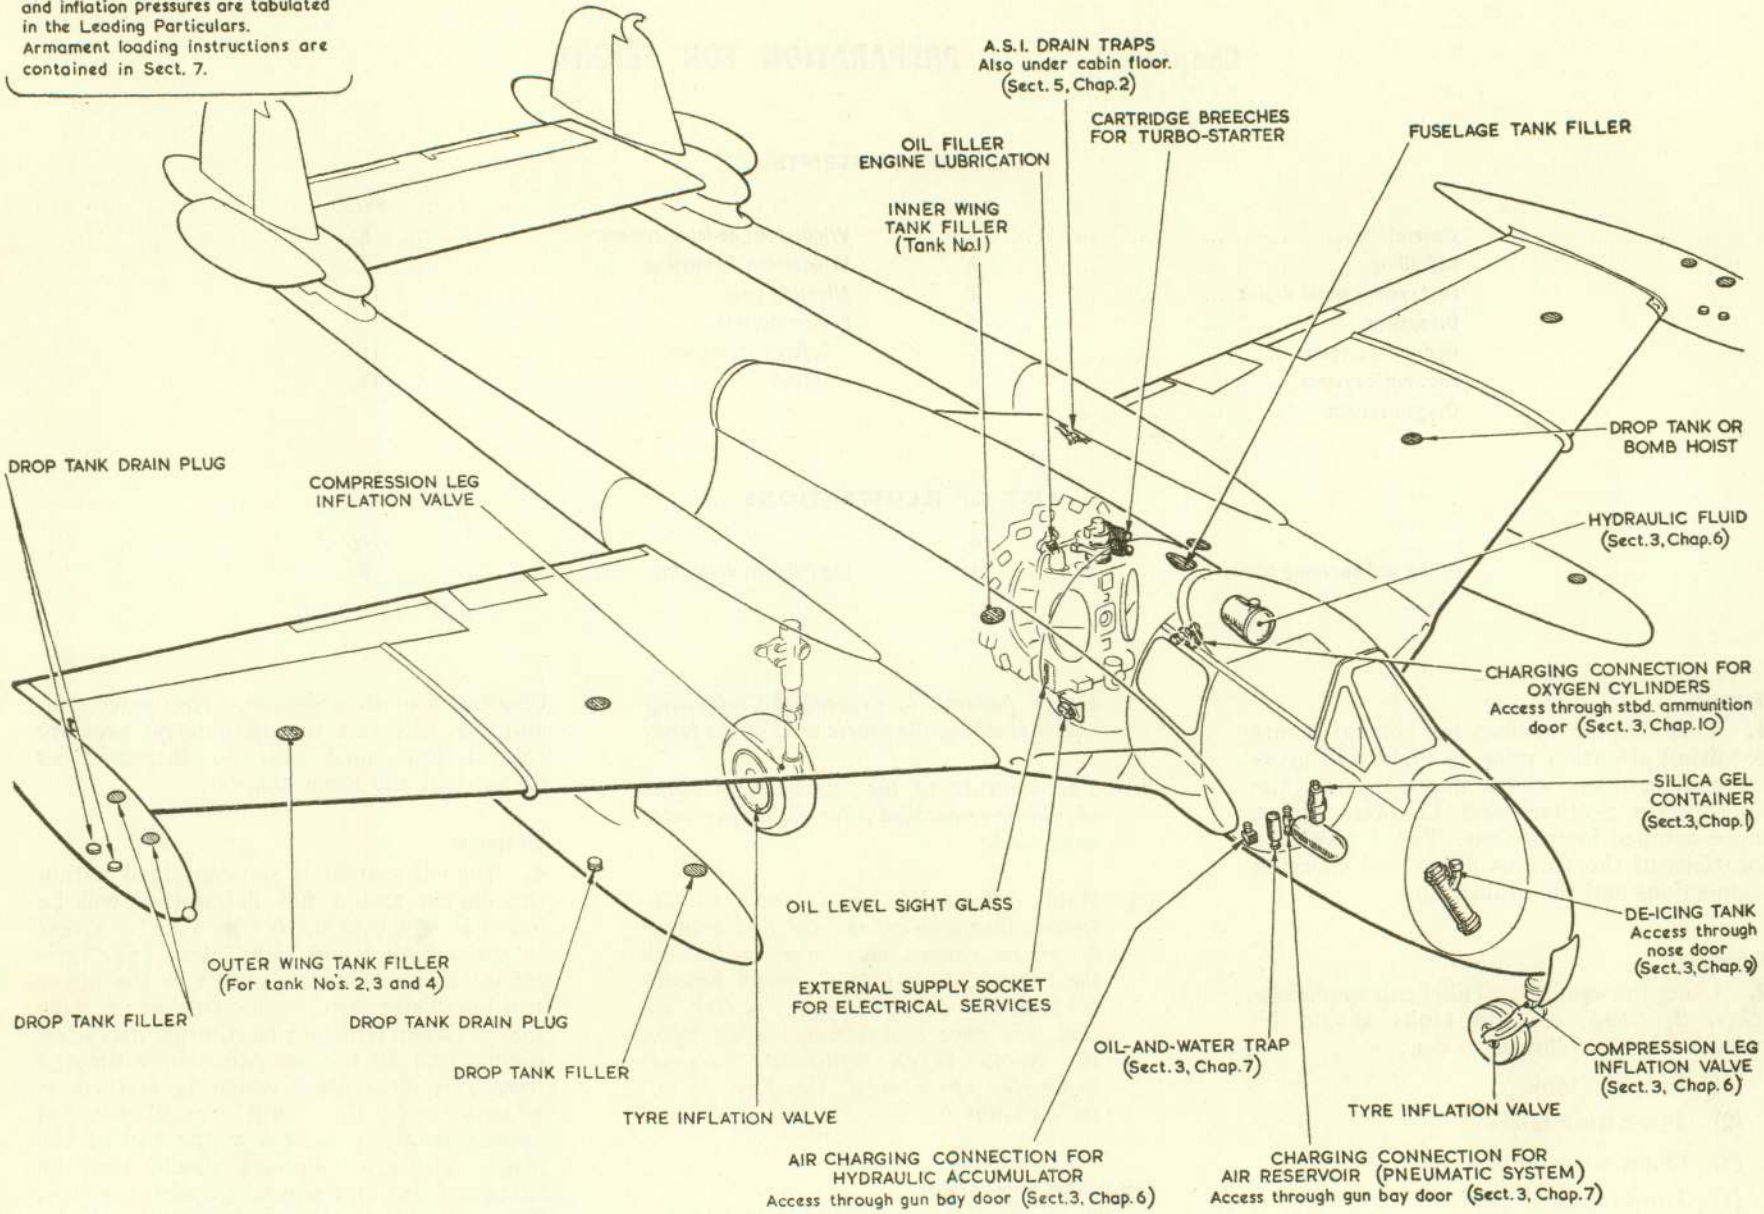

Fig. 1. Filling and charging points
1. This chapter outlines the general points requiring attention prior to flight and gives cross references, where necessary, to the appropriate Sections and Chapters giving more detailed instructions. Fig. 1 gives the locations of the various filling and charging connections and the drain traps.
4. The oil system is self-contained within the engine and a full description will be found in ◀A.P.4320A & C▶ Vol. 1. Access to the oil filler and sight glass (fig. 1) is gained through hinged panels in the upper and lower starboard engine cowlings respectively. When replenishing, the quantity of oil required to fill the sump can be estimated from the sight glass which is marked in QUARTS, with the "full" mark situated approximately  $\frac{1}{2}$  in. below the top of the glass. The exact amount should then be measured out and poured through the filler. Thus, it will not be necessary to wait for the new oil level to register on the sight glass which, in cold weather, may take some time, and it will also avoid any tendency to overfill.
**7.** The oxygen cylinders may be charged *in situ* through the charging connection shown in fig. 1, access to which is through the starboard ammunition loading door. *Care must be taken to avoid oil or grease contaminating any of the components of this system.* The installation is fully described in Sect. 3, Chap. 10.
**9.** The crystals, which may be observed through an inspection window in the drier or silica gel container (*fig. 1*) fitted behind the right-hand instrument panel, are blue when dry, and should be changed whenever they change colour to pink which indicates saturation. The functioning and servicing of the drier is fully described and illustrated in Sect. 3, Chap. 1.
**10.** The locations of the main and nose inflation valves for the shock-absorber struts are shown in fig. 1 and information on the charging and inflating of the legs is given in fig. 2 and Sect. 3, Chap. 5. The tyre pressures are given in Volume 4 of this Air Publication. Prior to flight, the ground locking device must be removed from the radius rod of each main undercarriage unit; red indicator flags are attached to these locks, which are illustrated in Chap. 1 of this Section.
**13.** The twin breeches of the Rotax turbo-starter, are accessible through the panel in the port side of the forward engine cowling (*fig. 1*). A full description of the starter, the servicing (including a fault diagnosis chart) and the procedure for loading the cartridges, is given in A.P.1181, Vol. 1 and 6, Part 1, Sect. 4, Chap. 2, and detailed information on the cartridges is given in A.P.1661F, Vol. 1, Sect. 2, Chap. 2. Provision is made to store four spare cartridges in the port flap shroud and two replacement starter bursting discs are stowed on the breech access panel on the port side. If the engine has not been run for some days, the clutch and reduction gear must be primed with oil as directed in ◀A.P.4320A & C▶ Vol. 1. When ground running under very low temperature conditions, it is recommended that the breeches of the turbo-starter are cleaned immediately the engine is shut down. Excessive moisture tends to accumulate in the breeches under freezing conditions and cleaning is more easily performed while the breeches are still warm.